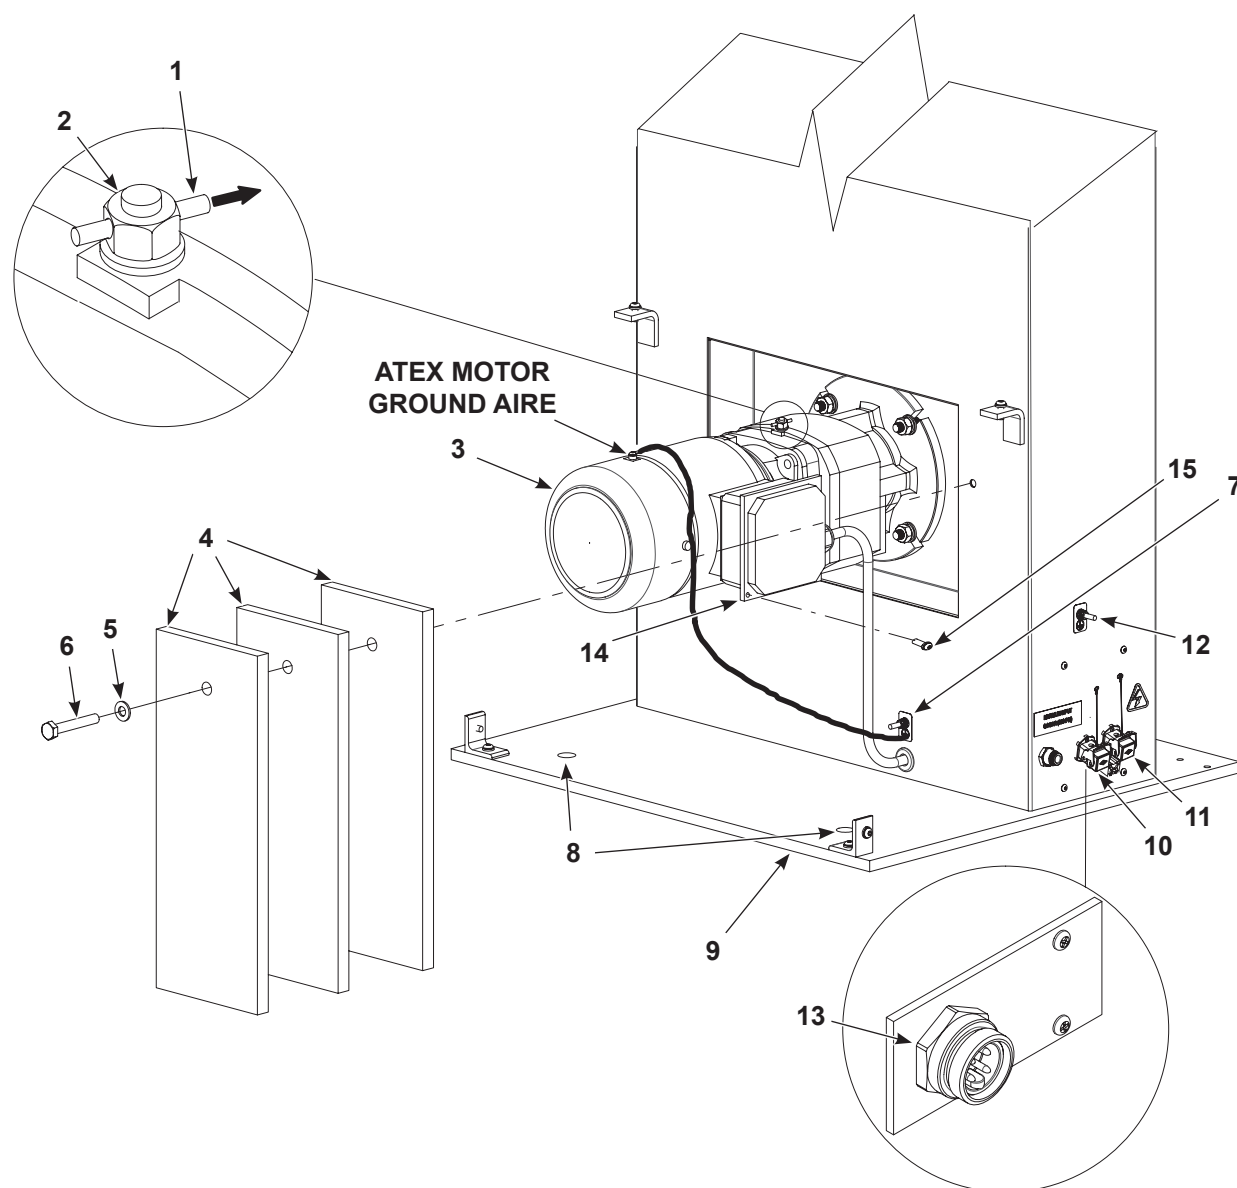

Figure 3 Installation
- b. See Figure 3. Install the counterweights (4) to the oscillator using the screw and (6) and lock washer (5). Tighten the screw securely.
2. If mounting the oscillator to the floor or a fixed stand, use the existing four mounting holes (8) in the oscillator base (9). If necessary, drill new holes into the base or floor. Use properly sized fasteners to secure the oscillator.
See Figure 3. Ground the oscillator using the grounding post (12) to a true earth ground. Test the ground and make sure it meets local code requirements.
- a. See Figure 3. Remove the screws (15) securing the junction box cover (14).
- c. See Figure 3. Reinstall the junction box cover (14) using the removed screws (15).
- a. See Figure 3. Connect the motor cable from the system controller to the connector (10).